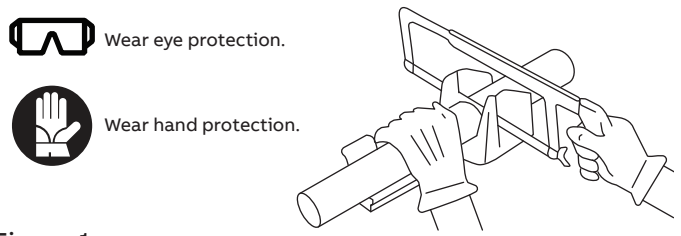

Figure 1
1. Cut the flexible conduit with a clean square end cut. (Figure 1)